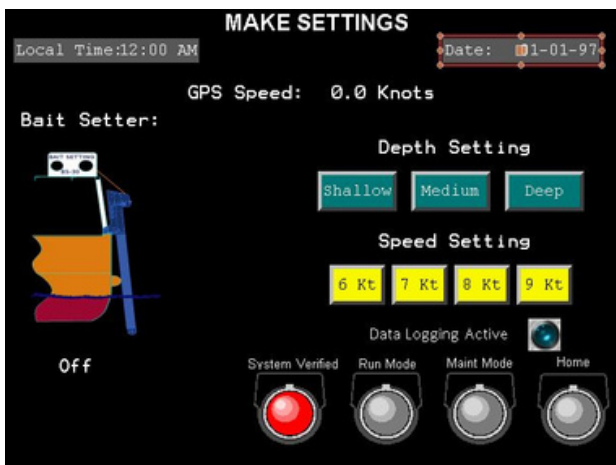

Figure 2.6. Make settings screen on the control box
- 2 Pressing the desired depth or speed button using the touch screen will change the display of the selected button to red (Figure 2.6). This indicates that the setting is active.